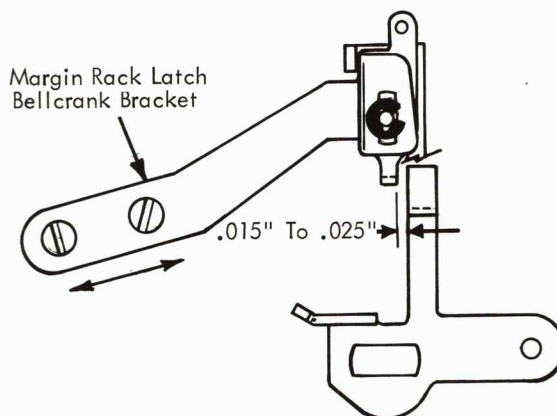

FIGURE 150.5 Margin Rack Latch Bellcrank Bracket
- a. With the carrier return clutch latch at rest, the lug on the latch bellcrank should clear the leading edge of the clutch latch lug by .015" to .025" (Fig. 150.5).